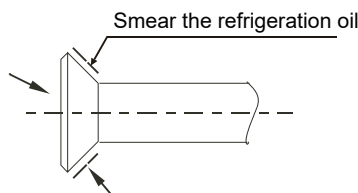

Figure 5.1
- b. Smear the refrigerator oil (it must be engine oil which is compatible with the cooling medium of this type) on the outside surface of flared joint and the conical surface of connecting nuts and screw it 3 or 4 rounds with your hand (Fig. 5.1) before screwing the flared nut up.